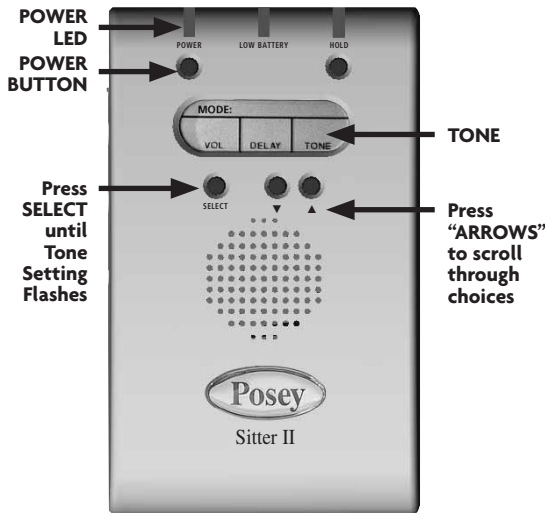

Fig. 4
1. Ensure the alarm is powered on and the sensor is attached to the alarm. The alarm should be in active monitoring mode (green LED light flashes above the POWER button, fig. 4). Place pressure on the sensor pad, connect the chair belt sensor or make sure the PIR sensor is activated.
2. Press the SELECT button until the tone setting blinks (fig. 4).
3. Press the arrows to scroll through the selections. Each time you press the arrow to change the tone, a two (2) second sample of the tone/music is played.